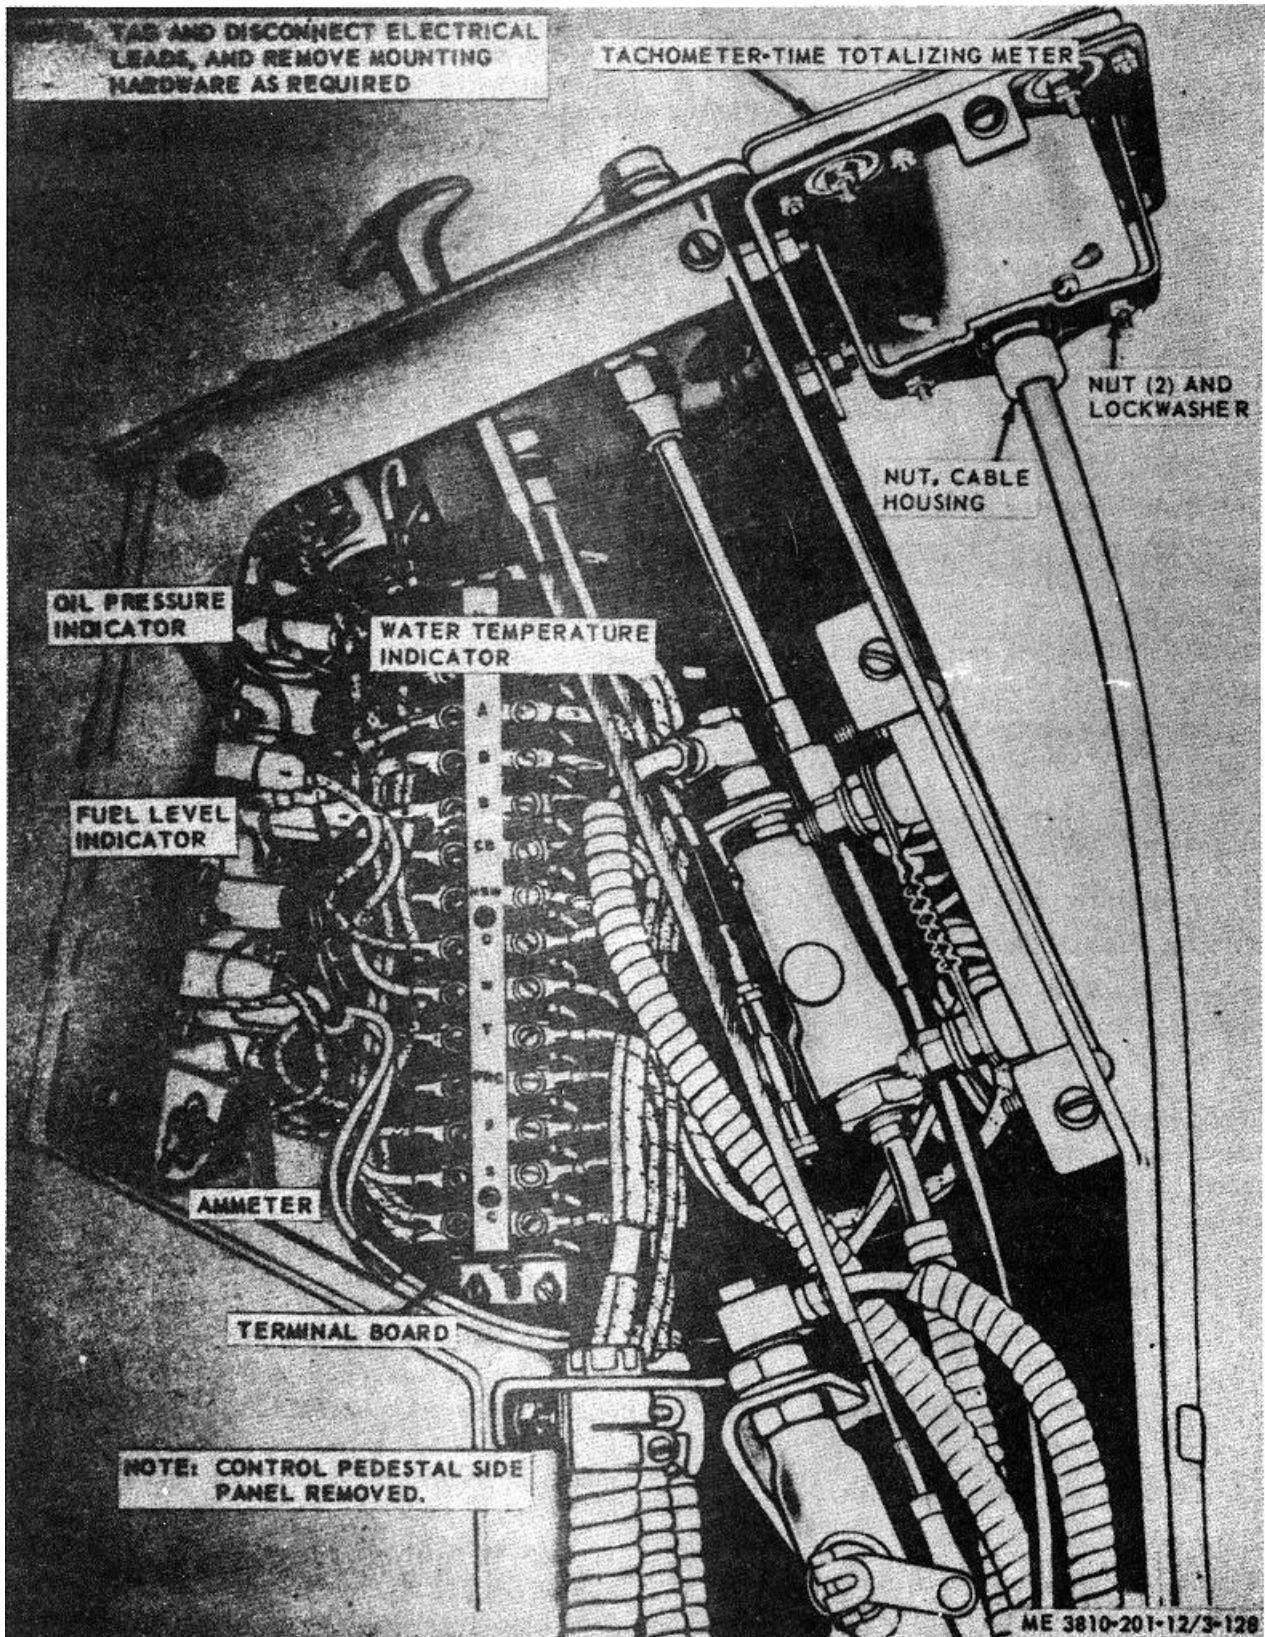

Figure 3-115. Tachometer-time totalizing meter, oil pressure indicator, fuel lever indicator, and ammeter, removal and installation.
- (1) Refer to figure 3-115. and loosen cable housing nut.
- (2) Remove two nuts and lockwashers securing tachometer to control panel, then lift tachometer indicator from control panel.
- (1) Refer to figure 3-115 and remove the ammeter.
- (2) Install in reverse order.
- (1) Refer to figure 3-115 and remove the oil pressure indicator.
(1) Refer to figure 3-115 and remove the water temperature indicator.
(2) Install in reverse order.
(1) Refer to figure 3-115 and remove terminal board.